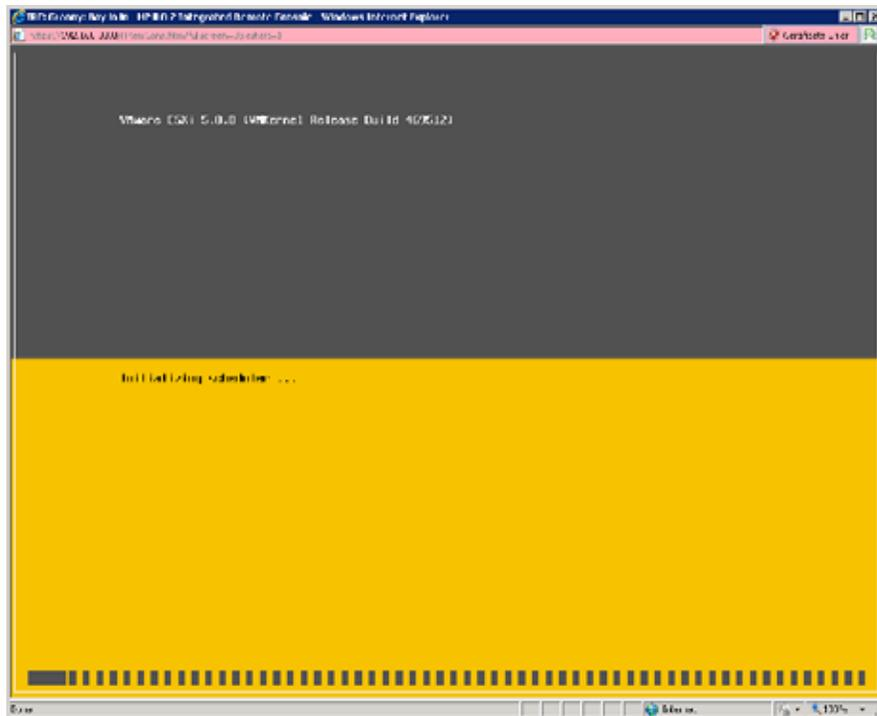

Figure 4 Boot Up
- Step 2 After the OS files have been loaded, the server boots to the ESXi 5.0 native operating system. See Figure 4 on page 78.